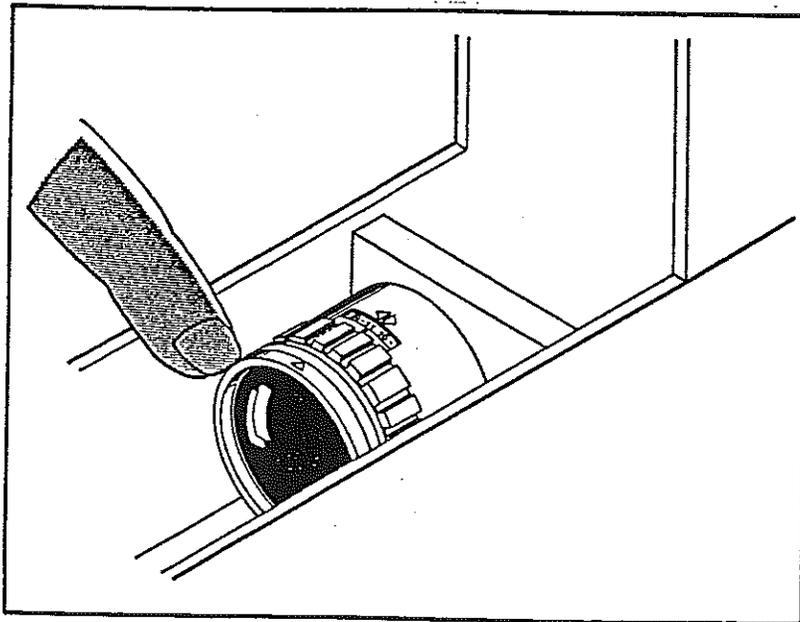

Fig. 13
- (d) The polarizing filter is situated on the rear of the 80 mm f/4 Rodagon lens. Focus the camera upon the artificial eye and centre this subject in the viewfinder. Rotate the polarizing filter to obtain maximum extinction of the central reflex image (Fig. 13).